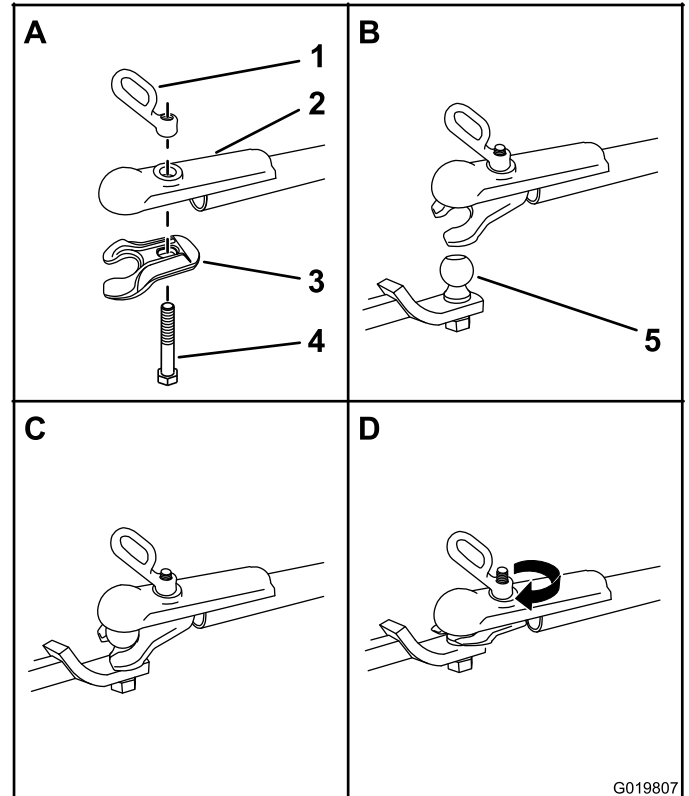

Figure 23
3. Push the coupler bolt up through the coupler clamp and the coupler top, and connect the coupler handle to the bolt (Figure 23).
5. Turn the coupler handle clockwise to thread it onto the bolt until it is secure (Figure 23).
1. Apply removable thread-locking compound to the threads of the coupler bolt to prevent the coupler handle from coming loose (Figure 23).